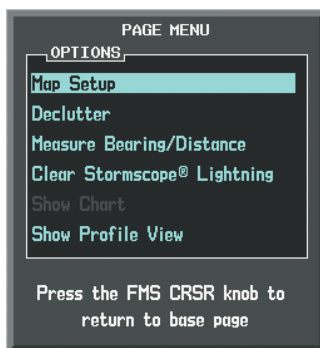

Figure 6-89 Navigation Map Page Menu
- 3) With Map Setup highlighted, press the **ENT** Key (Figure 6-89).